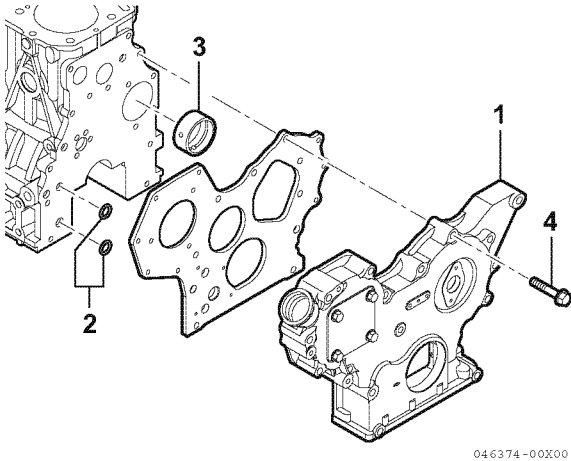
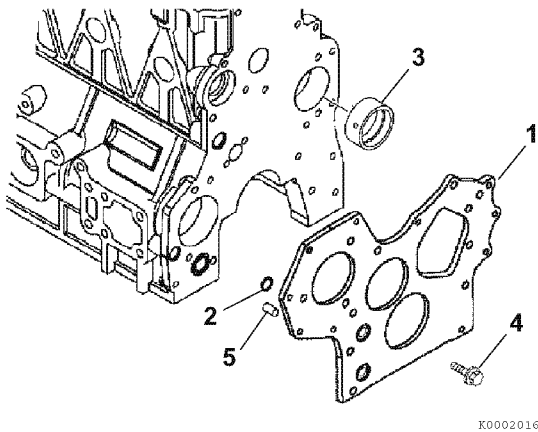

Figure 6-94
Figure 6-95
1. If removed, install a new camshaft bushing (**Figure 6-94, (3)**) using the appropriate service tool.
3. Reinstall the dowels (**Figure 6-95, (5)**) and a new O-ring (**Figure 6-95, (2)**).
4. Reinstall the gear case (**Figure 6-94, (1)**) or front plate (**Figure 6-95, (1)**). Tighten the bolts to the specified torque.